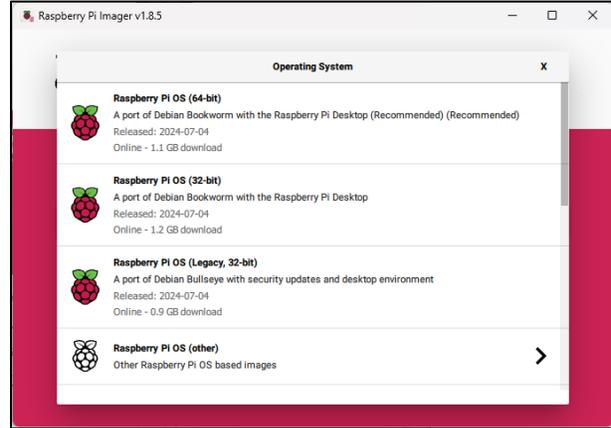

Figure 80 Selecting the Operating System
4. Under **Operating System**, select **Raspberry Pi OS (64-bit)** as shown in **Figure 80**.